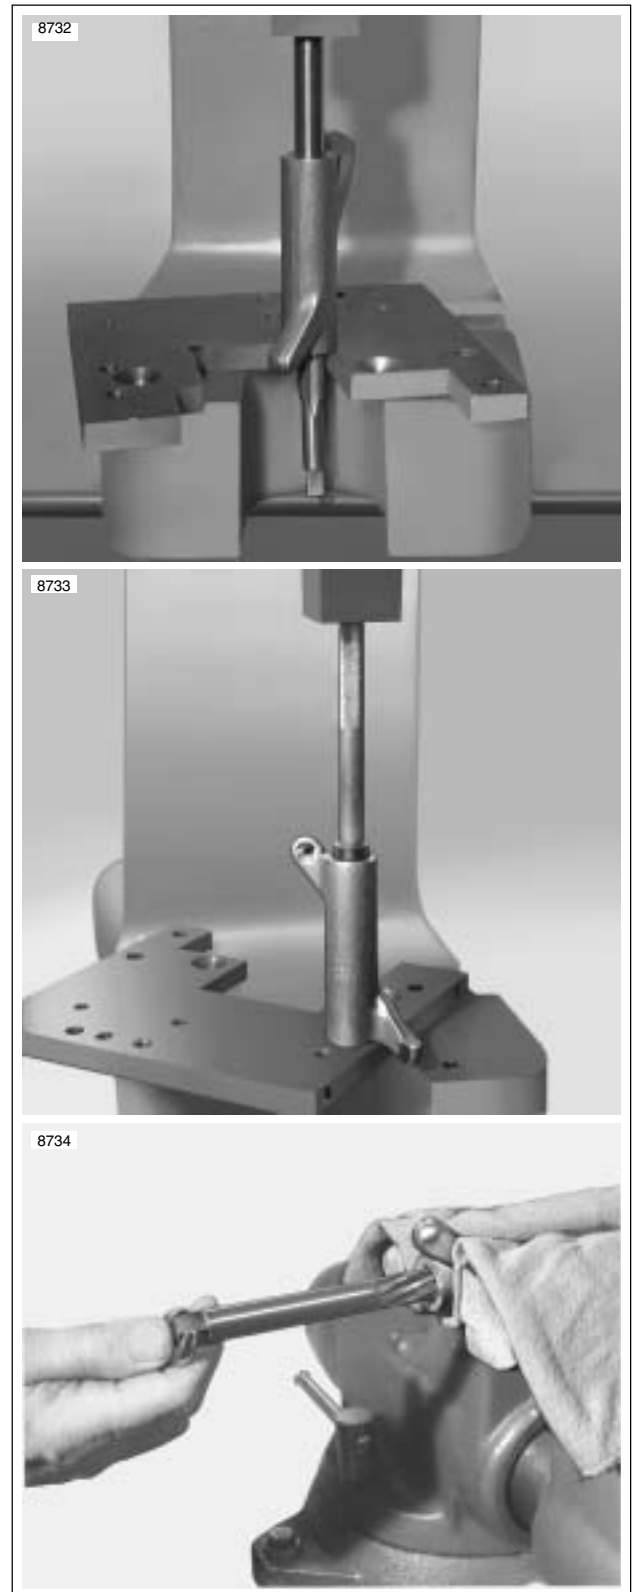

Figure 3-57. Replacing Rocker Arm Bushings
1. See Figure 3-57. To replace worn bushings, press or drive them from the rocker arm. If bushing is difficult to remove, turn a 9/16-18 tap into bushing. From opposite side of rocker arm, press out bushing and tap using a discarded rocker arm shaft.